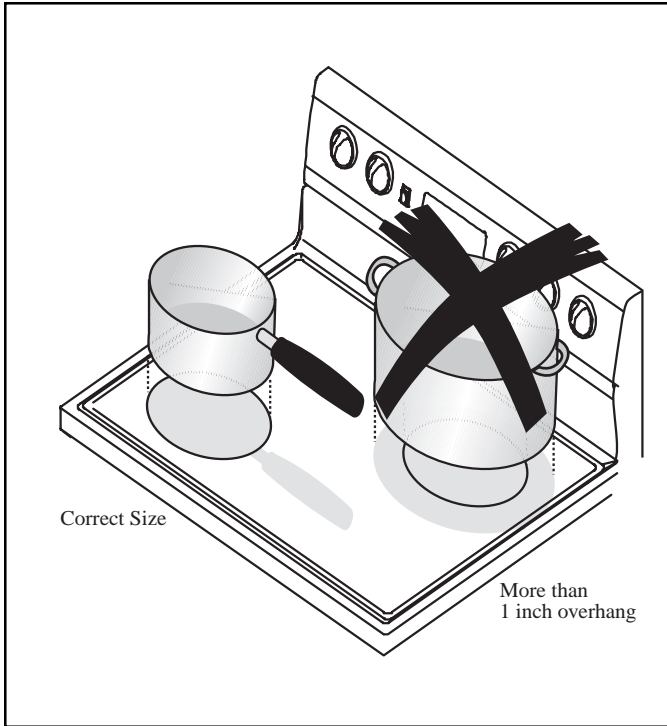

Figure 15
- Use proper pan size. Do not use a pan that has a bottom smaller than element. Do not use utensils that overhang element by more than 1 inch. (Figure 15)